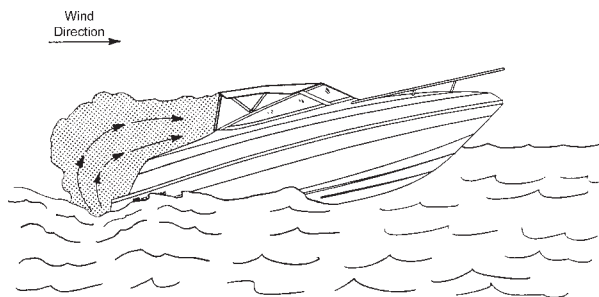

Figure B13: Operating at Slow Speed with Following Wind
- Operating a boat at slow speeds with a following wind should be avoided. Consider changing direction, adjusting speed, or both. See Figures B13.